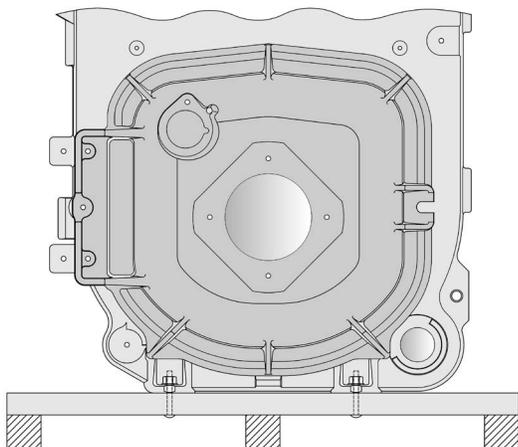

Figure 3-1: Knockdown Boiler Removal from Skid
1. Boiler is secured to skid with 4 bolts, 2 in front and 2 in rear of shipping skid, see Figure 3-1. Remove all bolts.